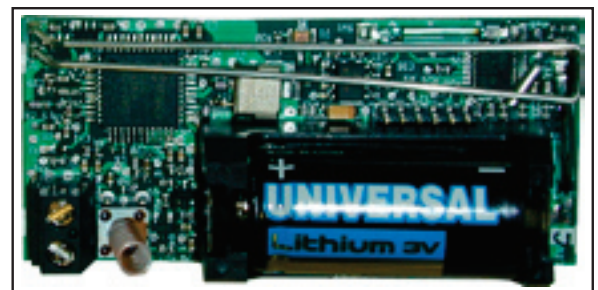

Figure 8: Transmitter PCB with Battery Installed
- Place the 3.0V Lithium battery in the holder as shown in Figure 8 and press into place.